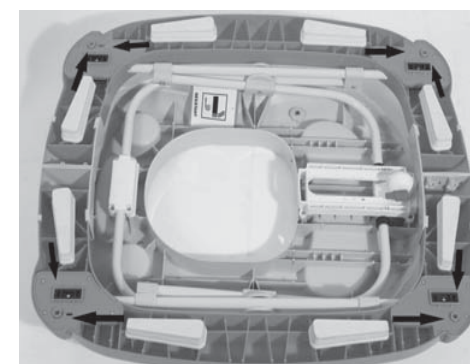

Fig. 3
1. The blocks should be fitted with the narrow end of each block pointing towards each wheel insert hole. Fig. 3